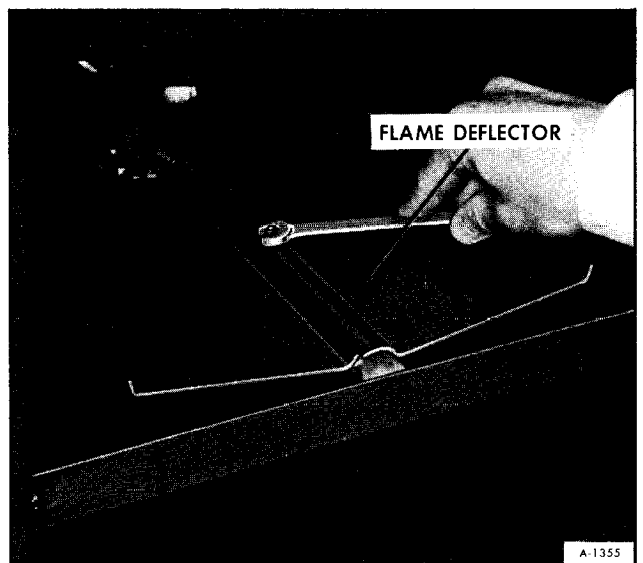

Figure 15—Removing Flame Deflector
4. Remove flame deflector (figure 15) from top of burner tube (held with one nut).